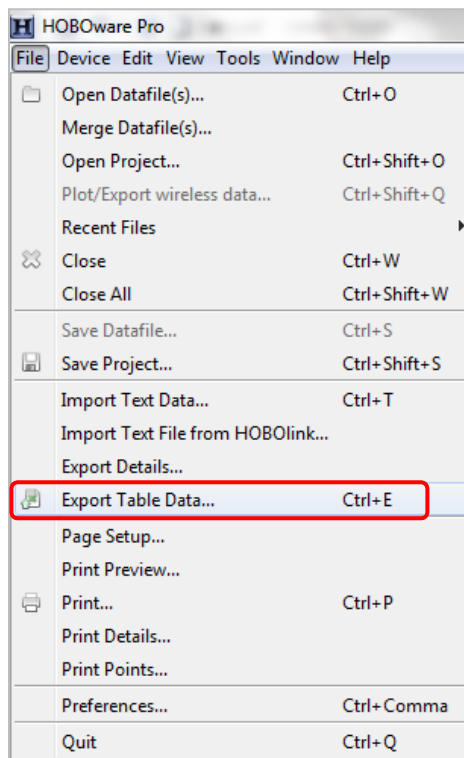

Figure A.4.19: File menu options.
3. Click “File” > “Export Table Data” (Figure A.4.19).